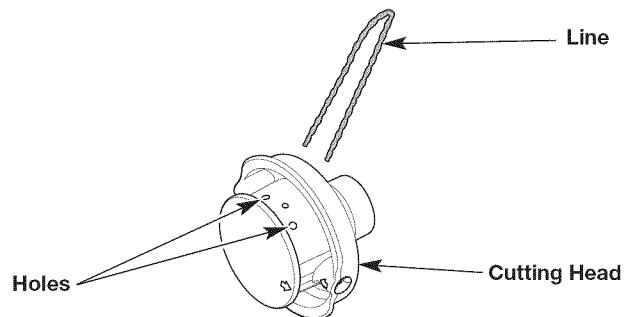
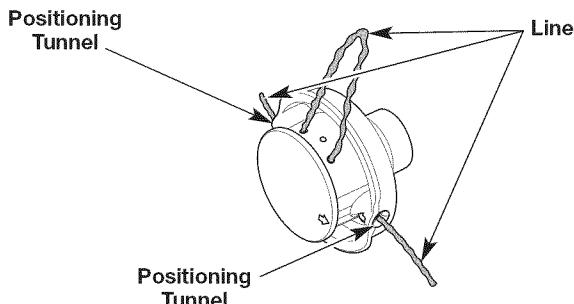

Fig. 16
Fig. 17
- Insert the ends of the line through the large circular holes in the side of the cutting head (Fig. 16). Push the line through the holes until both ends protrude from the positioning tunnels (Fig. 17).